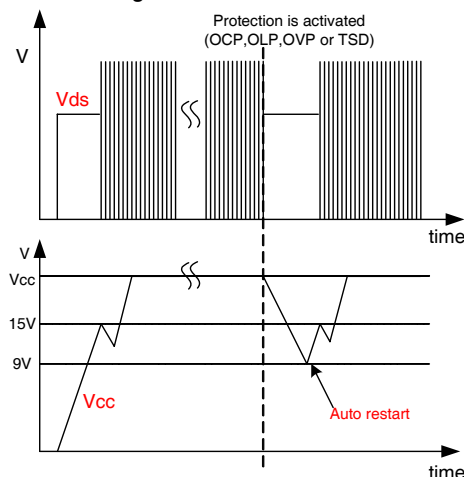

Figure 24. Auto restart operation after protection
3. Protection function: FS8S0765RCB has four self-protective functions such as abnormal over current protection (AOC), overload protection (OLP), over-voltage protection (OVP) and thermal shutdown (TSD). Because these protection circuits are fully integrated into the IC without external components, the reliability can be improved without cost increase. In the event of these fault conditions, the FPS enters into auto-restart operation. Once the fault condition occurs, switching operation is terminated and MOSFET remains off, which forces V_{CC} to be reduced. When V_{CC} reaches 9V, the protection is reset and the supply current reduces to 80 μ A. Then, V_{CC} begin to increase with the current provided through the start-up resistor. When V_{CC} reaches 15V, the FPS resumes normal operation if the fault condition is removed. In this manner, the auto-restart alternately enables and disables the switching of the power MOSFET until the fault condition is eliminated, as illustrated in Figure 24.